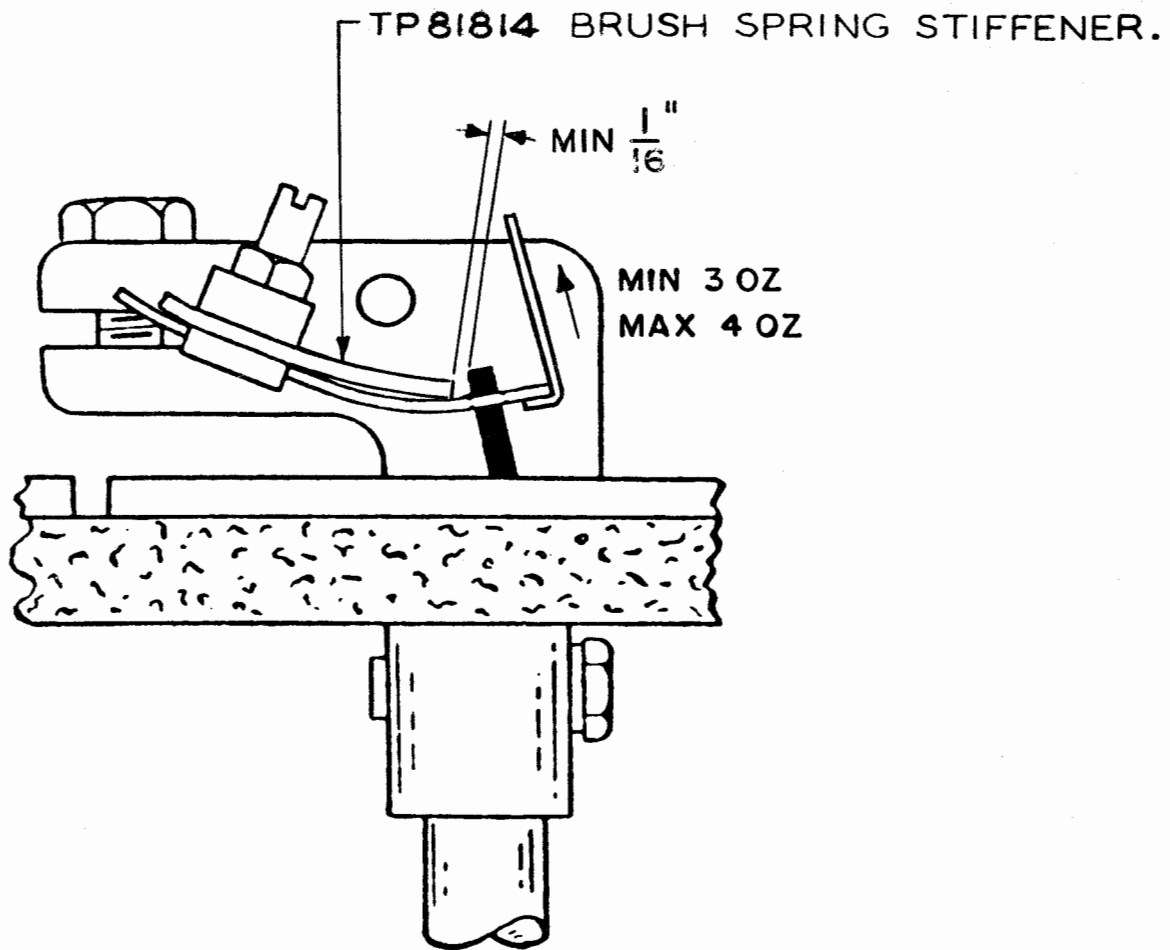

Figure 37
7.05 Brush Spring Tension, 100 wpm: TP81814 brush spring stiffeners are used with 100-wpm operation to eliminate brush bounce. They shall be clamped in the brush holder directly on top of the brush springs with their ends clearing by 1/16 inch the part of the carbon brushes which projects through the brush springs. The brush stiffeners shall be straight and flat before being clamped over the brush springs, which shall be slanted or cocked as explained in 14.01(b). It shall require minimum 3 ounces, maximum 4 ounces to lift brush from segment. Gauge as in 7.04. (See Figure 37.)